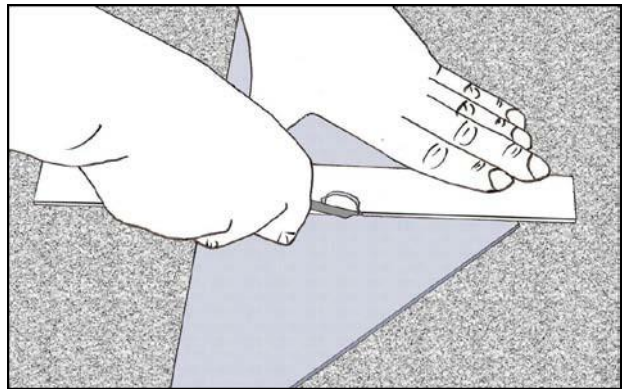

Fig 14.
4. Using a bit of scrap material and a 90 degree template cut an infill piece into a triangle. Groove out the back of the infill where it will wrap around the corner to aid in forming the corner. (See Fig 14.)